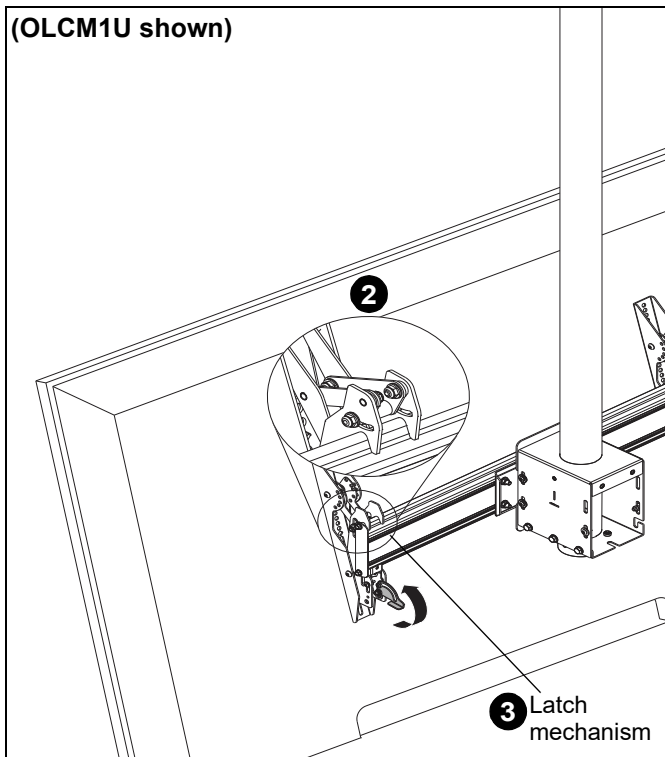

Figure 9
1. Ensure that the latch mechanisms on interface brackets (L) are already lowered. (See Figure 9)
2. While supporting both sides of display, lower display onto ceiling mount, hooking top of interface brackets onto front of ceiling mount. (See Figure 9)
3. Raise the latch mechanism on both interface brackets to lock bracket in place. (See Figure 9)